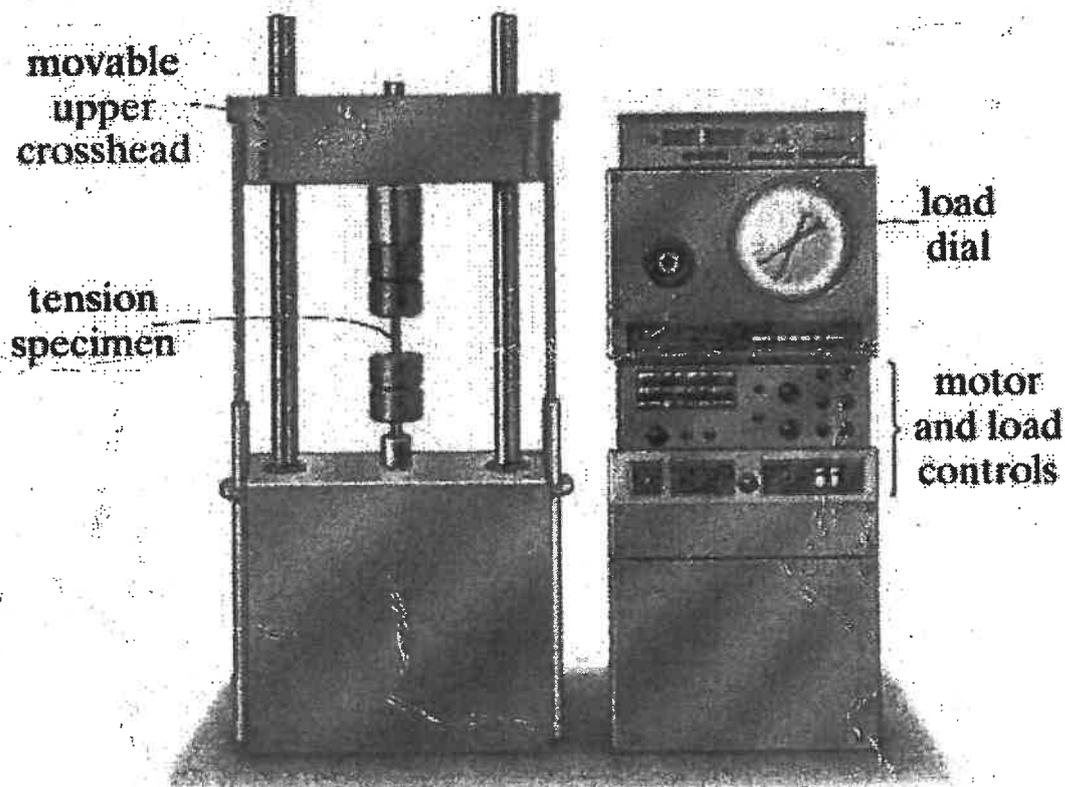

Figure 2: Universal Testing Machine Overview
*Refer Below - Figure2 : Universal Testing Machine Overview .*